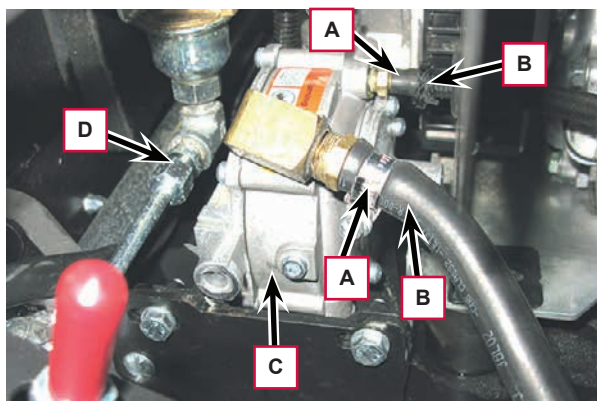

Figure 18
8. Unscrew the fitting (D, Figure 18) on the line.
9. Disconnect the electrical connections (E) and (F).
10. Remove the fastening screws (G, Figure 18) of the pressure regulator assembly with valves (H).
11. Remove the pressure regulator assembly with valves (H).
12. If necessary, unscrew the fuel solenoid valve (I) from the fitting (J) at the workbench.
13. Unscrew the fitting (K) from the pressure regulator (C).
14. Retrieve the pressure regulator (C).
15. If necessary, unscrew the fittings (L) and (M) from the pressure regulator (C).